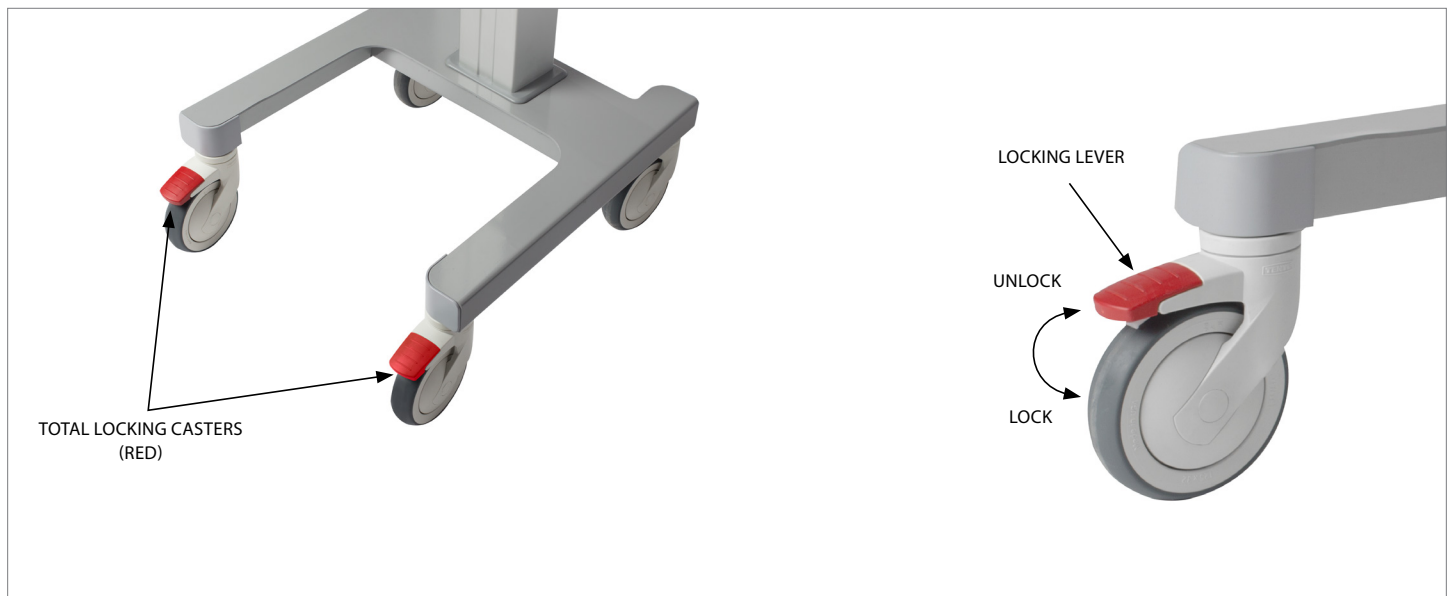

Figure 1
1. Lock the *CASTERS* by stepping on the *LOCKING LEVER* (on each caster) such that it clicks in the down position (**Figure 1**).